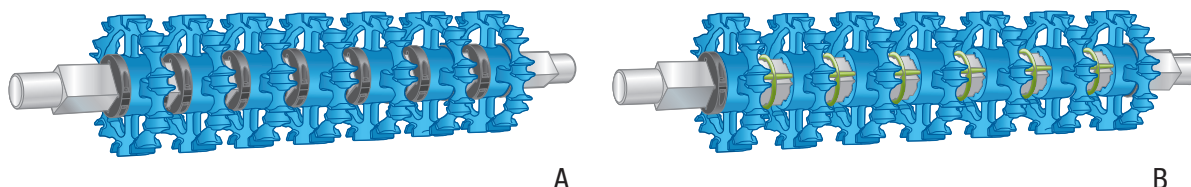

Figure 10
- Limit sprocket lateral movement to +/-0.125 in (3 mm) using retainer rings or sprocket spacers (Figure 10).
- Use Intralox sprocket spacers for a more hygienic spaced sprocket solution (Figure 10, B).